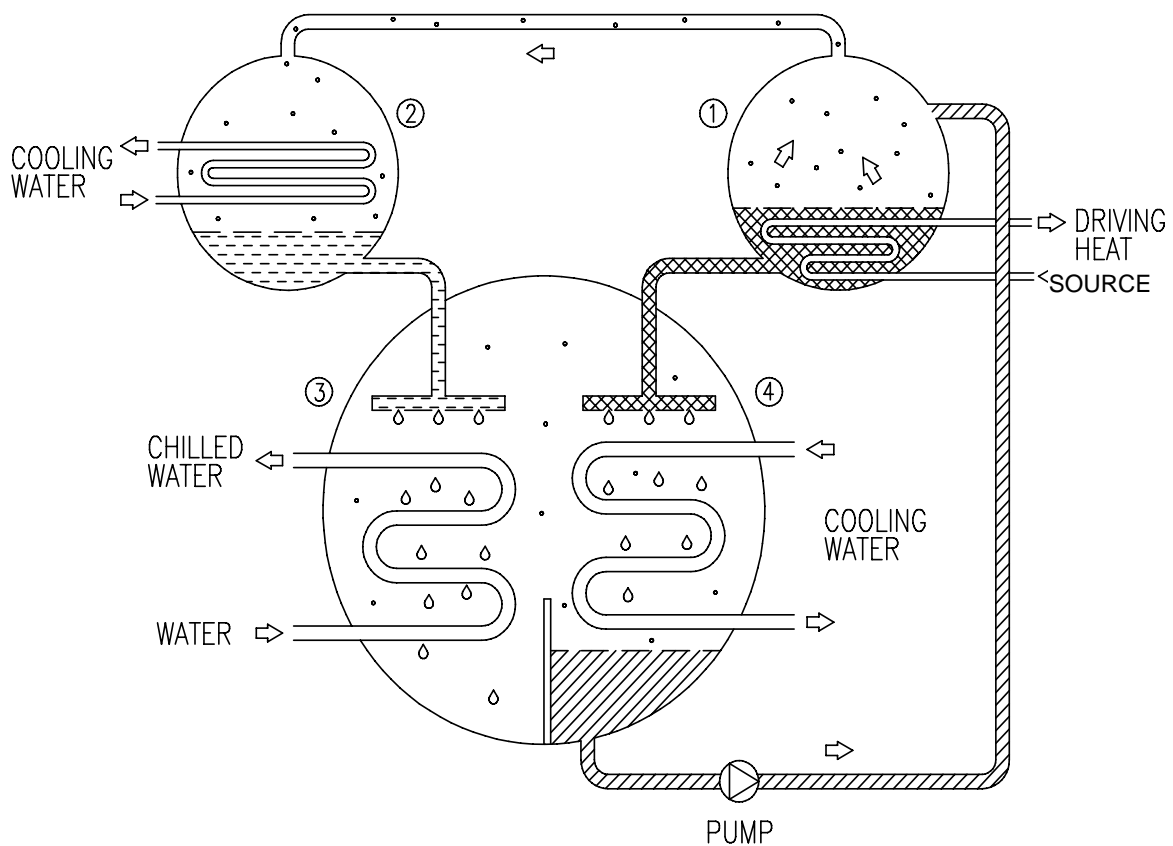

Fig. 2-6. Basic Cycle of Single Effect Type
As shown on Fig. 2-6, this is the basic operational cycle of the single effect type Absorption Machine. Part ①